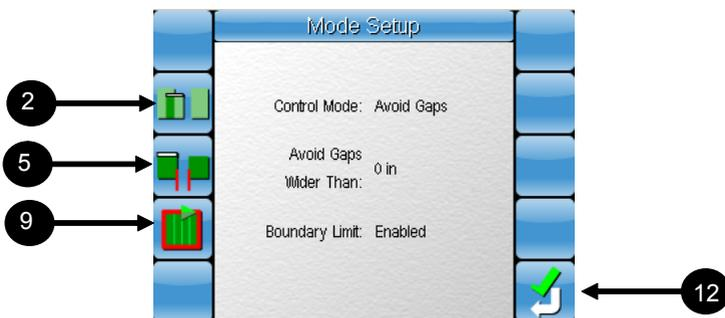

Figure 2-3. Mode Setup Screen
5. Select  (figure 2-3) to enter a minimum gap size (refer Avoid Gaps above)
9. Select  (figure 2-3)
- Select  (figure 2-3) to return to the **Auto Section Control Setup screen**